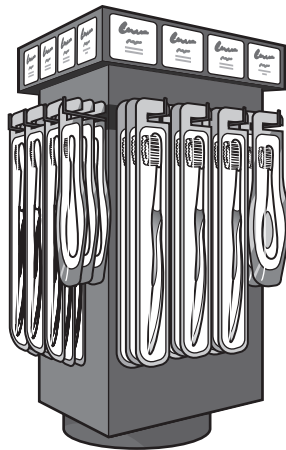

Fig. 1
16 Fig. 1 shows a Point of Sale Display stand (POSD) for toothbrushes.
(a) The toothbrush POSD shown in Fig. 1 can be both functional and aesthetic. Explain the terms functional and aesthetic, giving one example for each.
(b) Give **two** reasons why corrugated card has been used for the toothbrush POSD shown in Fig. 1.
(c) The toothbrush POSD shown in Fig. 1 is to be manufactured and delivered to the retailer in flat-pack form.
- (d) The manufacturer wants to re-design the toothbrush POSD shown in Fig. 1 to make it more interesting to the consumer by adding a smart material.